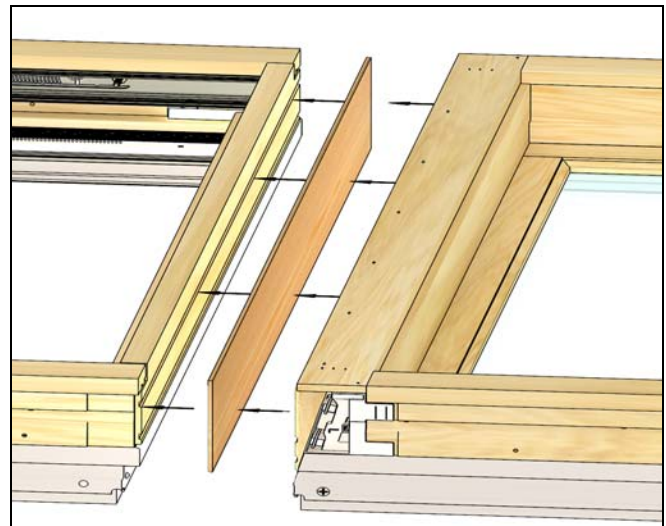

Figure 15
3. Measure width of the frames and cut wood mull insert to length. Place wood mull insert between the two frames to get the correct spacing. Ensure wood spacer is flush with the head jamb wood and sill liner. See Figure 15.